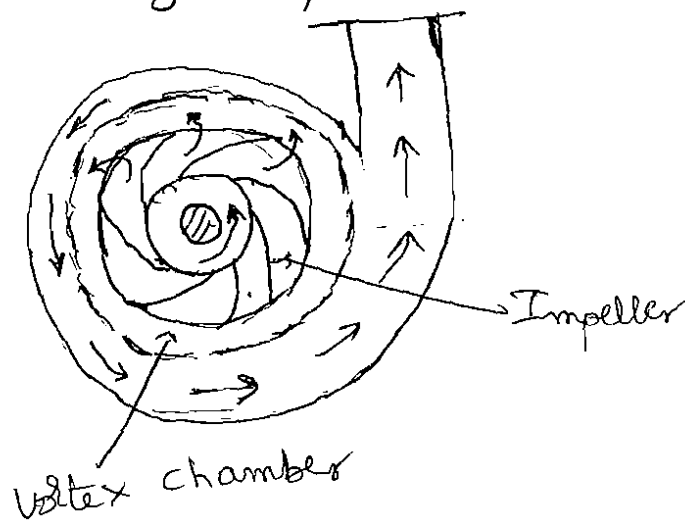

Fig 2 Vortex Casing.
(b) Vortex casing as shown in Fig. 2
b) Vortex Casing: If a circular chamber is introduced between the casing and impeller as shown in Fig 2, the casing is known as Vortex casing. By introducing the circular chamber, the loss of energy due to the formation of eddies is reduced to a considerable extent. Thus the efficiency of the pump is more than the efficiency when only volute casing is provided.